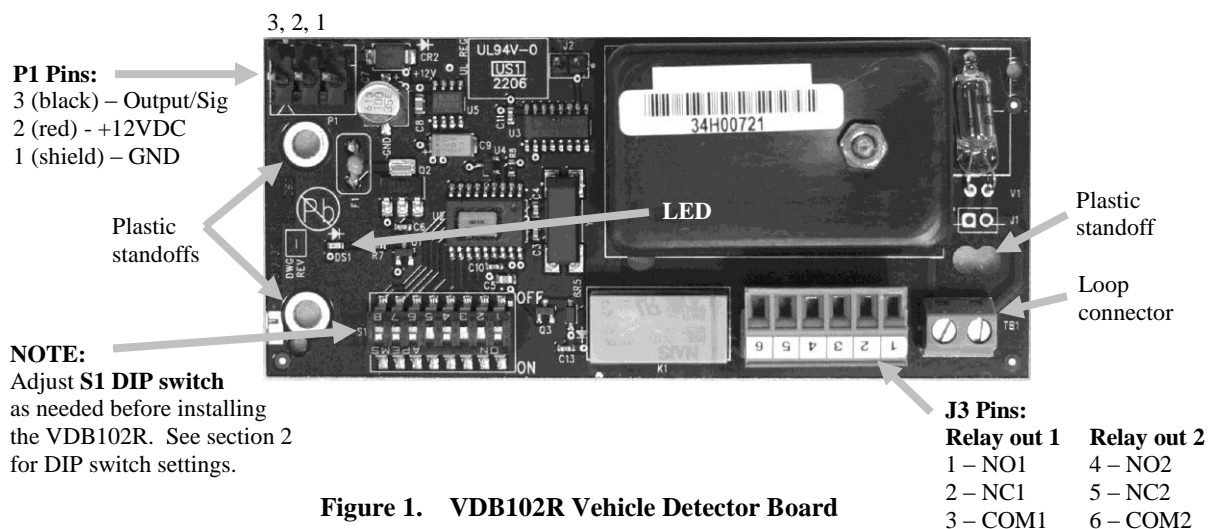

Figure 1. VDB102R Vehicle Detector Board
- Position the VDB102R over the three plastic standoffs on the base station or control unit circuit board and press it firmly until the standoffs snap through the holes on the VDB102R. See Figure 1.
- Connect the loop cable to TB1 at the lower right corner of the VDB102R. See Figure 1.
- Connect the VDB102R interconnect cable to P1, at the upper left corner of the VDB102R. See Figure 1. Be certain the plastic catches on the cable connector are aligned with the plastic catches on the P1 connector. The color-coded connector wires must also match the pin positions shown on Figure 1, below. Connect the other end of the interconnect cable to the circuit board in the base station or control unit according to installation instructions from the drive-thru audio or timer system. If the installation instructions are not available, call HME at 1-800-848-4468.